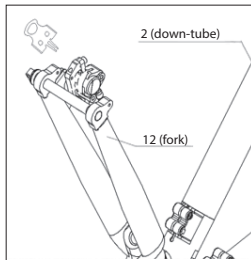

Figure 4-1
- Pull off the plastic chip from the brake caliper, as shown in **Figure 4-1**.